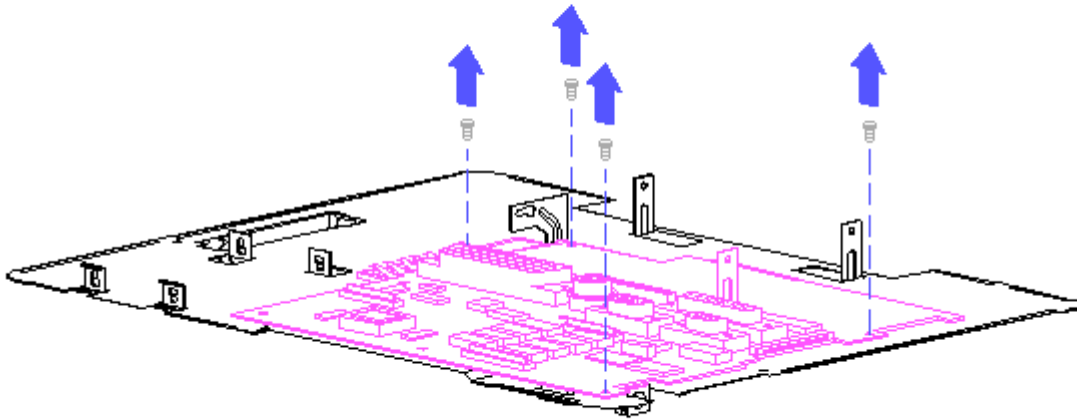

Figure 3-68. Removing the System Board
- 7. Remove the screws from the system board and remove the system board (Figure 3-68).